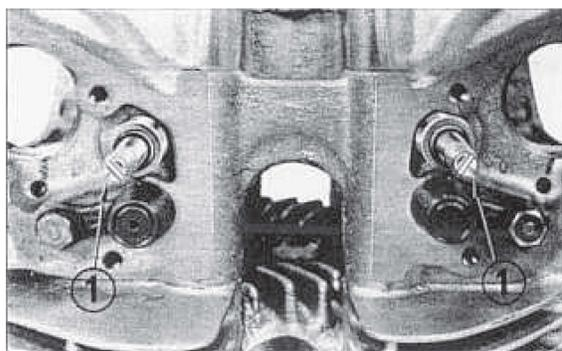

Fig. 4-19 (1) Cam follower shaft mark
1. Install the intake cam followers and cam follower shafts to the cylinder head so that the marks on end of the shafts are directed as shown in Fig. 4-19.
When adjusting valve clearances, follower shafts must face as in Fig. 4-19. Otherwise damage to valve mechanism may result.
5. Install the exhaust cam followers and cam follower shafts so that the mark on end of the shafts are directed as shown in Fig. 4-19.